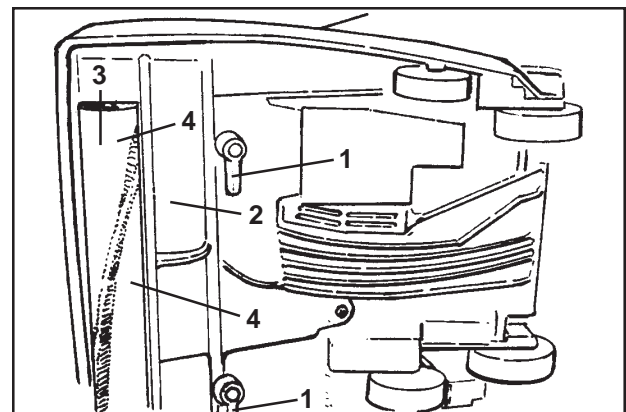

Figure 8
1. Turn the levers (figure 8, #1), that hold the plate, to the left.
2. Remove the nozzle plate (figure 8, #2).
3. Remove the brush roller (figure 8, #3).
4. Remove the four screws from each half (figure 8, #4).